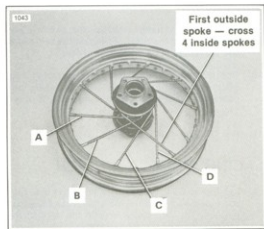

Figure 2-18. Cross-4 Pattern
7. See Figure 2-18. Swing the outer spoke in the opposite direction crossing over 4 inner spokes, and secure the spoke in the nearest hole angled towards it. Repeat the procedure for all outer spokes.